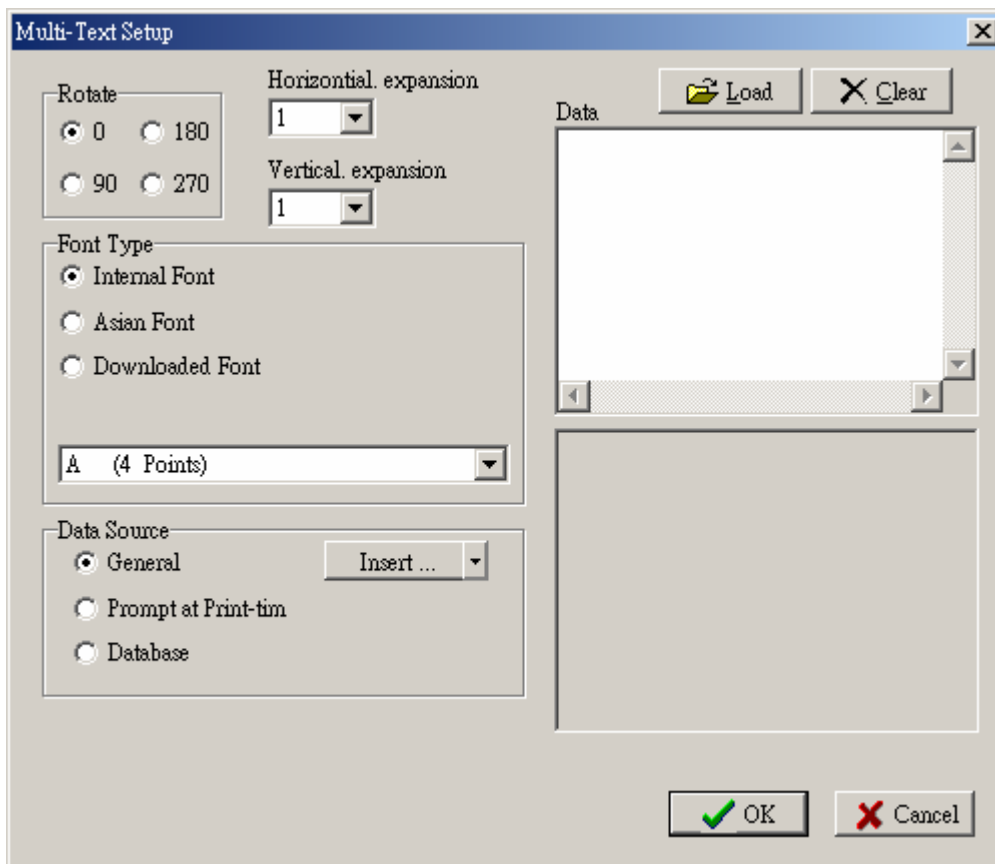

Fig.5.1
1. Click **A**T.(refer to the Fig.5.1)